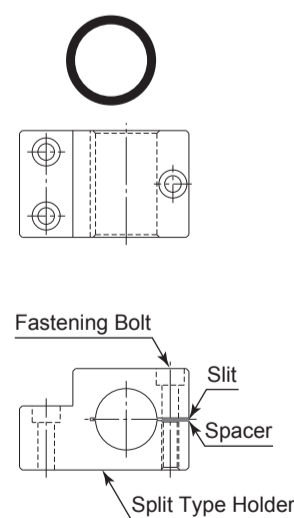
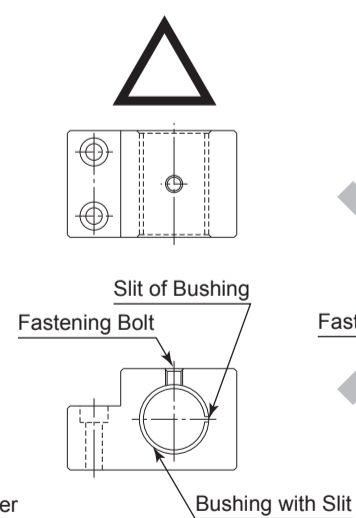

Fig. 12
Fig. 13
- When installing a Spindle to the holder, recommended installation method is shown Fig 12. Refer to " 3 How to fabricate the Split Type Holder ". If this is not possible, install as shown in Fig. 13.